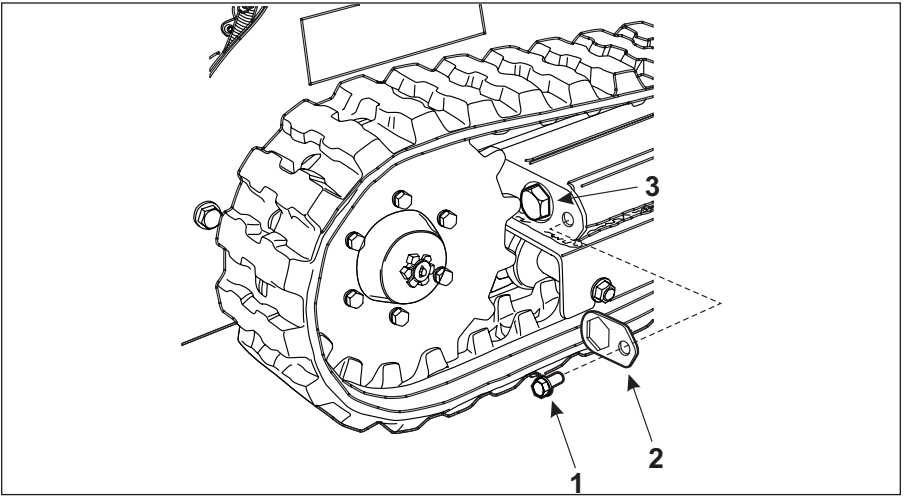

Figure 4-33 Set Track Tension
17. Rotate the tension bolt (Item 3, **Figure 4-33**) COUNTER CLOCKWISE until the correct track tension is set. See Track Tensioning earlier in this manual.
22. Install track tension bolt lock plate (Item 2, **Figure 4-33**) and secure it with the lock bolt (Item 1, **Figure 4-33**).